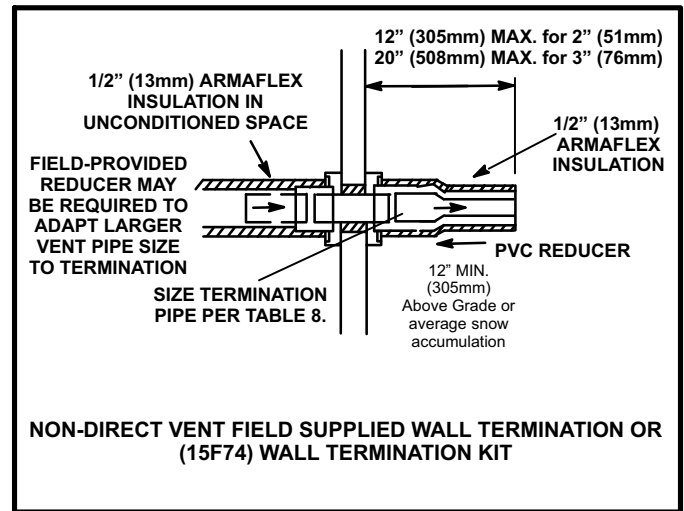

FIGURE 45
- 2 - On field supplied terminations for side wall exit, exhaust piping may extend a maximum of 12 inches (305mm) for 2" PVC and 20 inches (508mm) for 3" (76mm) PVC beyond the outside wall. See figure 45.